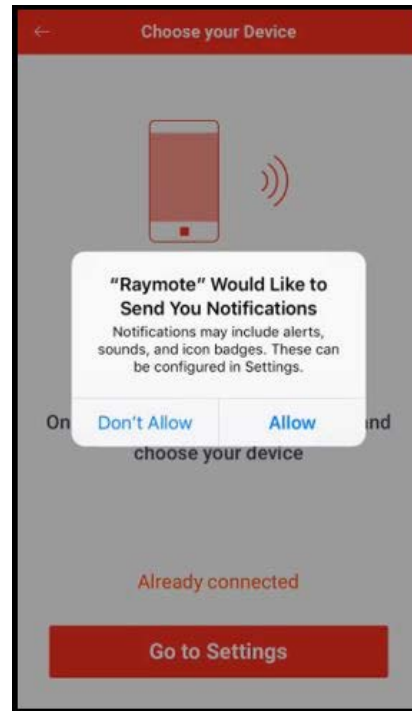

Figure 89. Grant Permission
**NOTE:** The first time you use a new phone, the Raymote mobile app will require you grant permission to access data. See Figure 89.